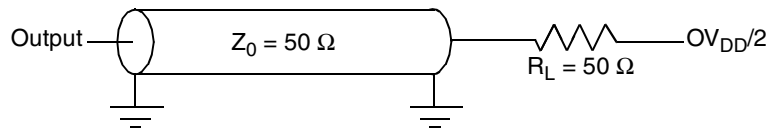
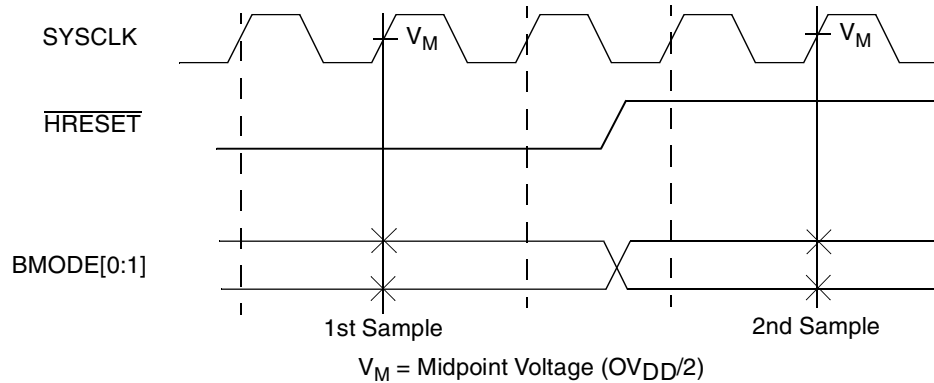

Figure 4. AC Test Load
Figure 5. $\overline{\text{BMODE}}[0:1]$ Input Sample Timing Diagram
Table 9 provides the processor bus AC timing specifications for the MPC7448 as defined in Figure 4 and Figure 5.
- All input specifications are measured from the midpoint of the signal in question to the midpoint of the rising edge of the input SYSClk. All output specifications are measured from the midpoint of the rising edge of SYSClk to the midpoint of the signal in question. All output timings assume a purely resistive 50-Ω load (see Figure 4). Input and output timings are measured at the pin; time-of-flight delays must be added for trace lengths, vias, and connectors in the system.
- The symbology used for timing specifications herein follows the pattern of $t_{(signal)(state)(reference)(state)}$ for inputs and $t_{(reference)(state)(signal)(state)}$ for outputs. For example, t_{VKH} symbolizes the time input signals (I) reach the valid state (V) relative to the SYSClk reference (K) going to the high (H) state or input setup time. And t_{KHOV} symbolizes the time from SYSClk(K) going high (H) until outputs (O) are valid (V) or output valid time. Input hold time can be read as the time that the input signal (I) went invalid (X) with respect to the rising clock edge (KH) (note the position of the reference and its state for inputs) and output hold time can be read as the time from the rising edge (KH) until the output went invalid (OX).
- $\overline{BMODE}[0:1]$ and $BVSEL[0:1]$ are mode select inputs. $\overline{BMODE}[0:1]$ are sampled before and after \overline{HRESET} negation. $BVSEL[0:1]$ are sampled before \overline{HRESET} negation. These parameters represent the input setup and hold times for each sample. These values are guaranteed by design and not tested. $\overline{BMODE}[0:1]$ must remain stable after the second sample; $BVSEL[0:1]$ must remain stable after the first (and only) sample. See Figure 5 for sample timing.
Figure 4 provides the AC test load for the MPC7448.
Figure 5 provides the $\overline{\text{BMODE}}[0:1]$ input timing diagram for the MPC7448. These mode select inputs are sampled once before and once after $\overline{\text{HRESET}}$ negation.